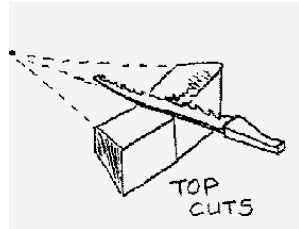

Figure 11-16
- Level off the top layer, using your saw as a straight edge to sight toward the center at ground level as in figure 11-16. This brings the igloo progressively toward the center, which eventually closes it.